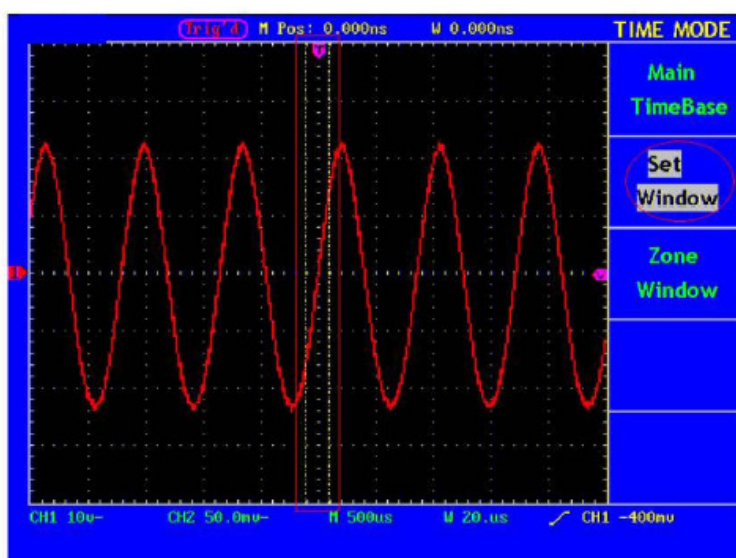

Fig. 34 Window Setting
Press the F2 menu selection button and choose **Set Window**. The screen will show a window area defined by two cursors. In this case, the **HORIZONTAL POSITION** and **SEC/DIV** knobs can be used to adjust the horizontal position and size of this window area (see Fig. 30(a)). Press F2 menu button under the FFT mode, it will notice "FFT mode disable". See Fig.34.
5. Press "F4" to choose slope as "Rising". Display as Fig.34